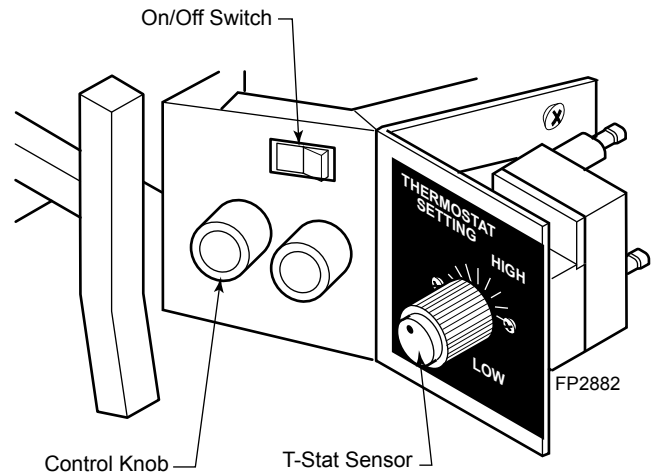

Figure 23 -
2. With control knob in the "ON" position make sure the ON/OFF switch is in the "OFF" position. *Figure 23*